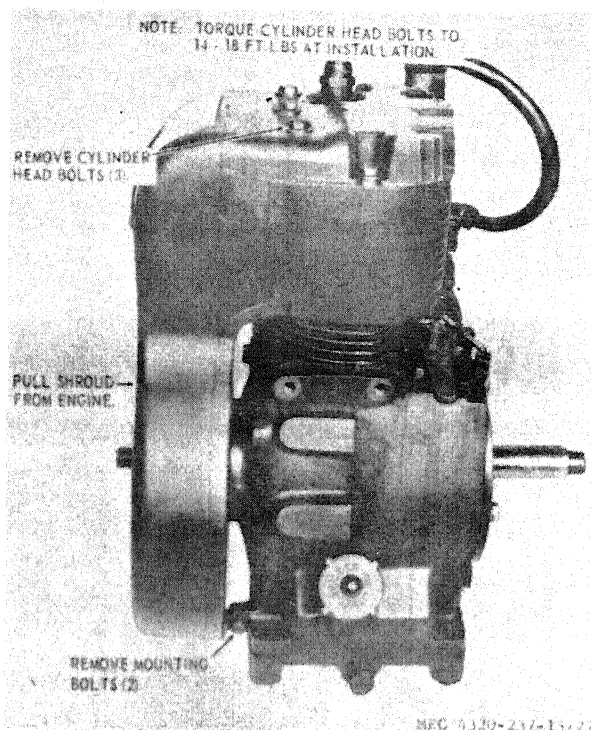

Figure 27. Shroud, removal and installation.
- (1) Remove the starting pulley (para 58).
- (2) Refer to figure 27 and remove the shroud.
- (1) Refer to figure 27 and install the shroud.
- (2) Install the starting pulley (para 58).